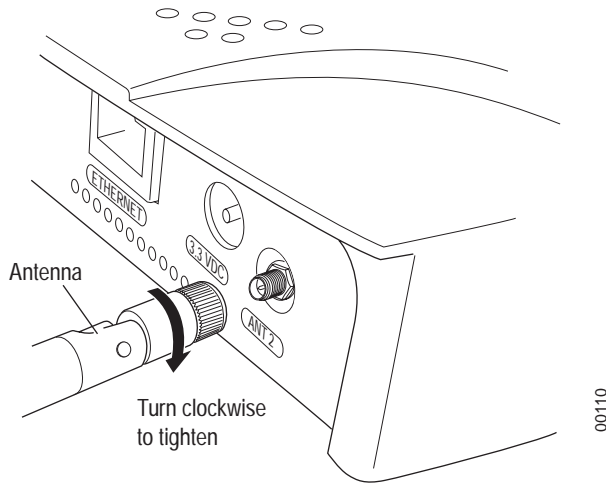

Figure 5: AP200 Antenna Connection
If the AP200 does not have external antennas, attach the antennas to the connectors on the AP200 (see Figure 5). Rotate the knurled ring at the base of the antenna clockwise to attach the antenna. The ring should be finger-tight.
2. For each antenna, loosen the knurled ring at the base of the antenna (see Figure 5), point the antenna straight up, then retighten the ring.
8. For external antennas, loosen the knurled ring at the base of each antenna (see Figure 5), point the antenna straight up, then retighten the ring.
9. For each antenna, loosen the knurled ring at the base of the antenna (see Figure 5), point the antenna straight down, then retighten the ring.
11. For each antenna, loosen the knurled ring at the base of the antenna (see Figure 5), point the antenna down, then retighten the ring.